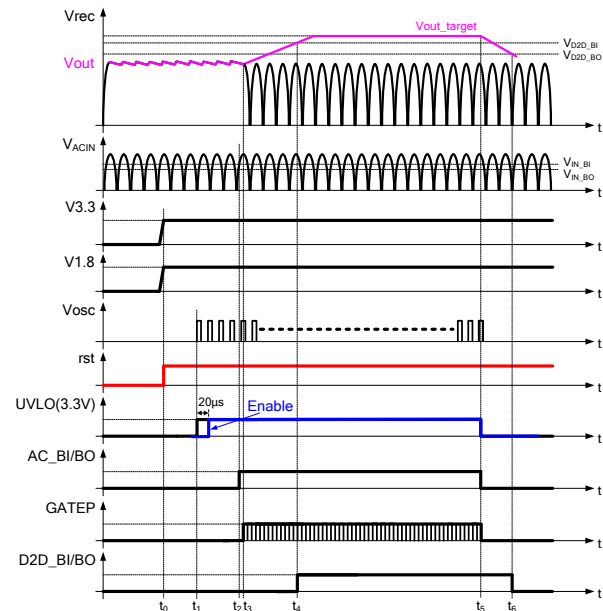

Figure 6: Power Supply Sequence of Digital Controller
1. **D2D brown-in/out signal:** If the output voltage is higher than V_{D2D_BI} , the D2D_BI/BO signal is set high, enabling the LLC stage. The LLC stage is disabled when the output voltage drops below V_{D2D_BO} . This function guarantees that the LLC operates within a proper input voltage range, preventing the LLC from running in capacitive mode (see Figure 6).
Figure 6 shows the timing of the digital PFC block.